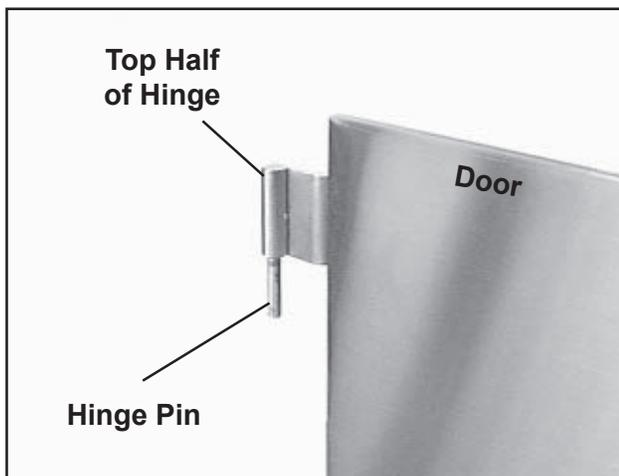

Figure 25. Top Half of Door Hinge
1. Lift up the door and gently lower both hinge pins into the lower hinge halves (Figure 25). Make sure the hinge pins seat fully into the lower halves.